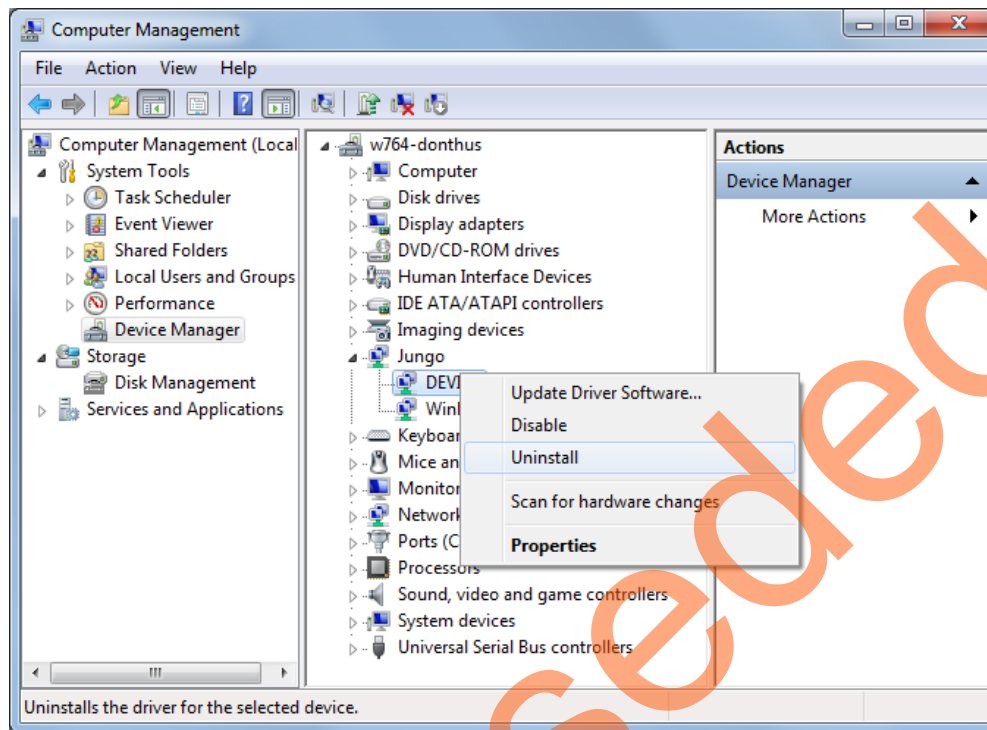

Figure 11 • Uninstall Jungo Driver
- a. Navigate to **Device Manager** and right-click **DEVICE** and click **Uninstall**, as shown in Figure 11. The **Confirm Device Uninstall** dialog box is displayed.